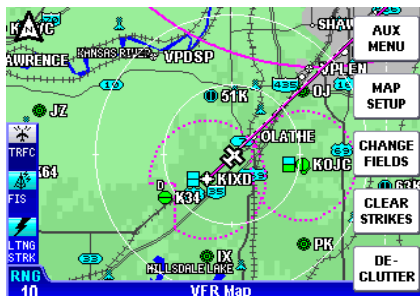

Figure 1-10
1. Press the **MENU** Key to display Figure 1-10.